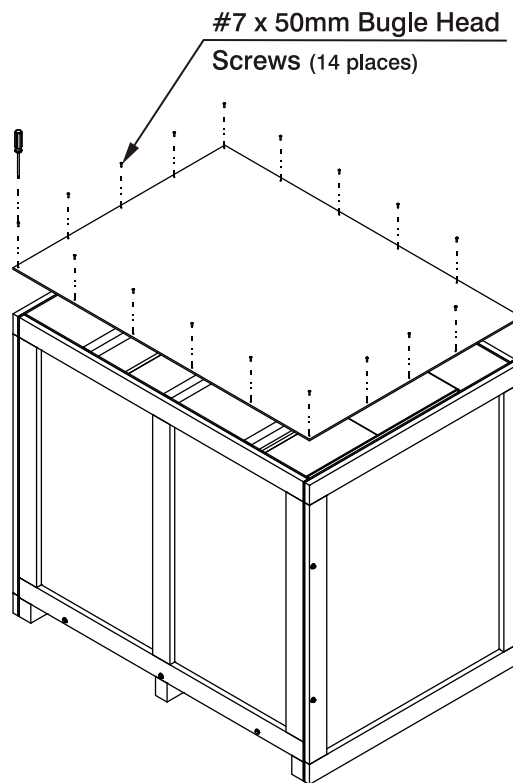

Figure 3.3
Step4: Remove the fourteen (14) #7 x 50mm Bugle head screws with a 3Pt Phillips screwdriver. See Figure 3.3..